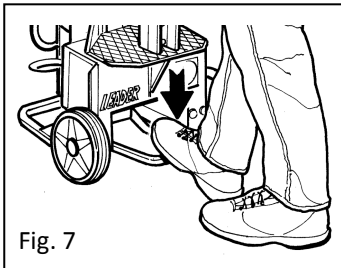

Fig. 7
To make it easier to start the electric (EL) and petrol (VS) models, the manufacturer recommends starting the machine by keeping one control lever pressed down or the pedal pressed halfway. (Fig. 7)